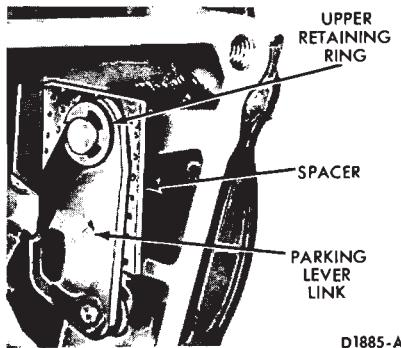

FIG. 53—Parking Pawl Link
pawl link (Fig. 53). Remove the pawl link from the case retaining pin.
11. Install the parking pawl link on the case retaining pin. Install the flat washer and link retaining ring (Fig. 53).